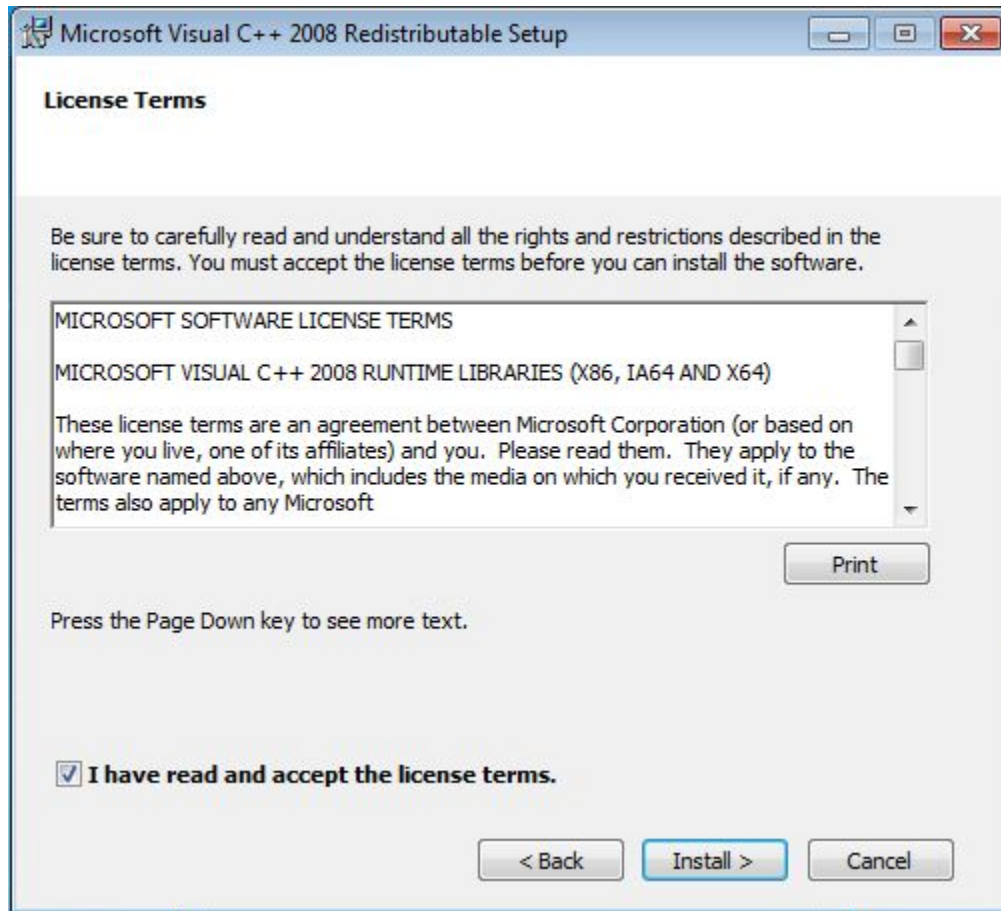

Figure 4.2 - Accept the Microsoft Visual C++ 2008 Redistributable License
2. Accept the Microsoft Visual C++ 2008 Redistributable license by checking the checkbox, see Figure 4.2. Then click **Install**.